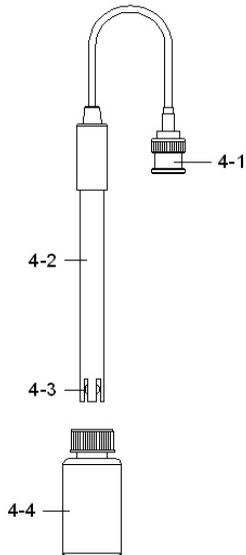

Fig. 2
- 1) Prepare the PH Electrode (optional), install the " Probe Plug " (4-1, Fig. 2) into the " PH Socket/BNC Socket " (3-16, Fig. 1).
- 4) Hold the " Electrode Handle " (4-2, Fig. 2) by hand and let the " Sensing head " (4-3, Fig. 2) immersed wholly into the measured solution and little shake the probe.
When not use the Electrode, it should immerse the " Electrode sensing head " (4-3, Fig. 2) into the " Protection bottle " (4-4, Fig. 2)